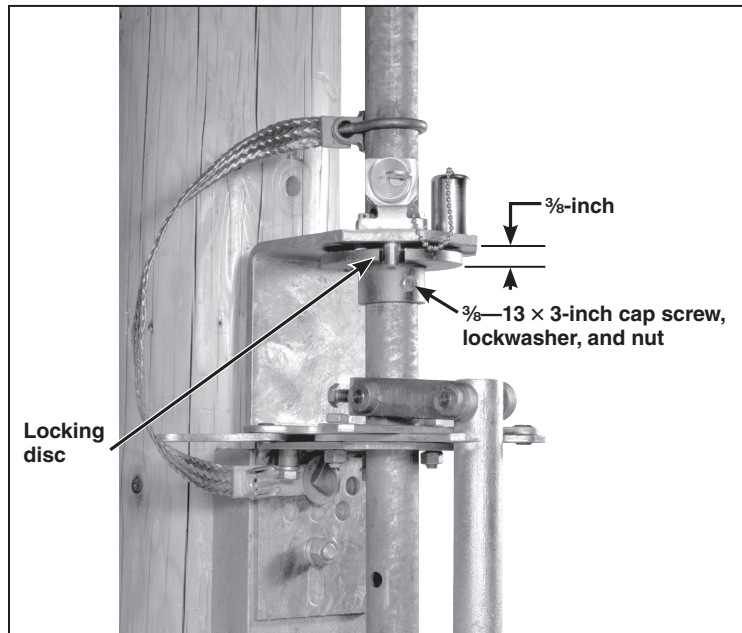

Figure 32. Attach the locking disc.
STEP 32. Hold the locking disc $\frac{3}{8}$ -inch below the interlock bracket and drill $\frac{7}{16}$ -inch diameter holes through the vertical operating-pipe section using the holes in the locking disc collar as pilots. Attach the locking disc to the pipe using the $\frac{3}{8}$ -16 \times 3-inch cap screw, lockwasher, and nut furnished. See Figure 32.